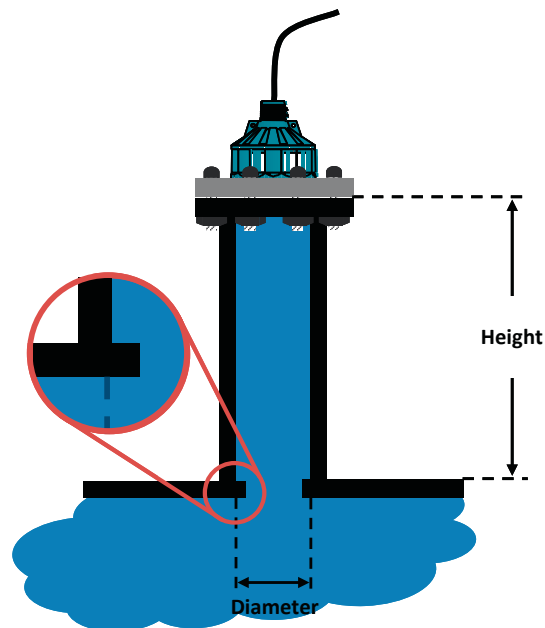

Figure 2.2
- Standpipe side wall should be seamless and free of welds or burrs (Figure 2.2).